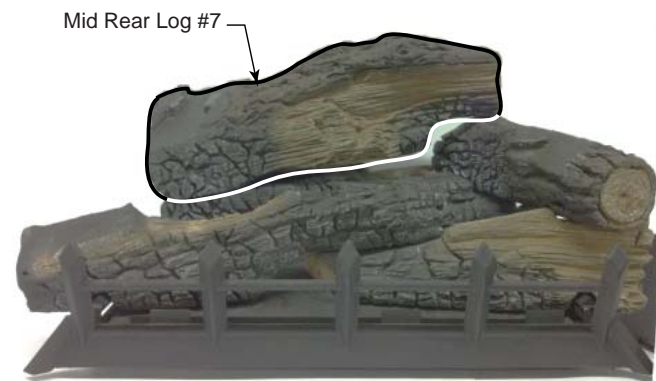

Figure 47
7. Place mid rear log (#7) on bottom rear log (#1) and mid right log (#6) by placing notch on bottom of log onto locating block on log #1. Right side of log will rest on log #6. *Figure 47*